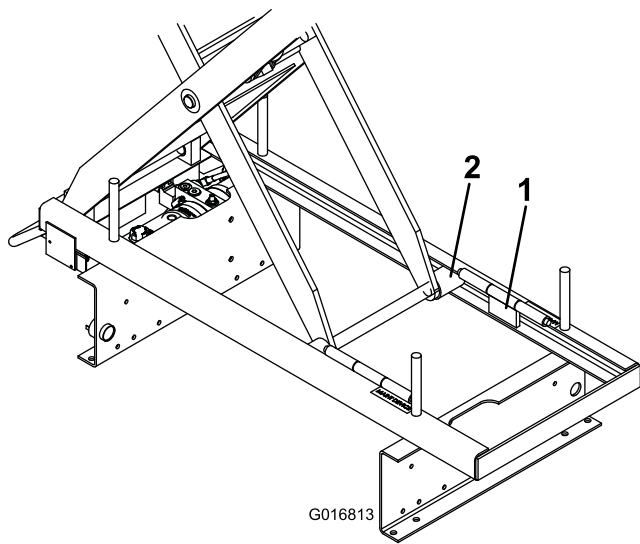

Figure 18
6. Rotate both the safety locks, from their storage positions, until they rest inside the base frame, thus in the path of the scissor rollers (Figure 18).